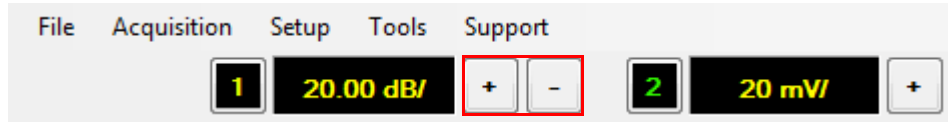

Figure 2-12 Vertical scale adjustment on the graphical interface
- 8 You can also adjust the vertical scale using + and – as shown in Figure 2-12.